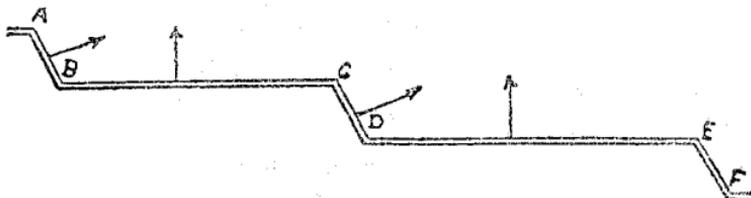

FIG. 174.—Indented trace.
1. *Traces with indentations.*—The parts parallel to the principal line of fire BC and DE and the flanks AB and CD, etc., follow each other in the same order. This trace gives good protection from flanking fire. (See fig. 174.)